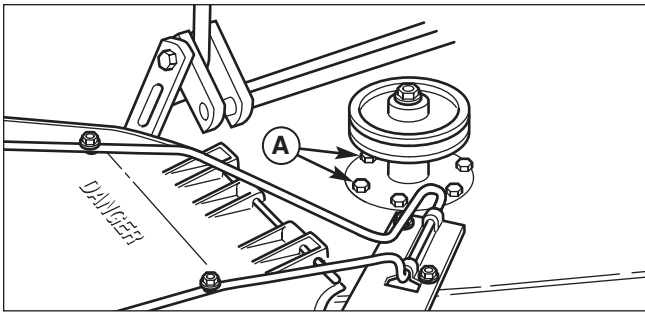

Figure 7. Discard Taptite Screws
1. Remove and discard the two taptite screws (A, Figure 7) from the locations shown.